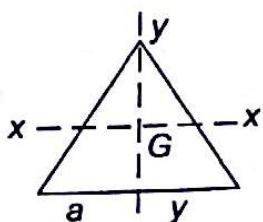

Fig. 8.16
8.1 Fig. 8.16 shows an equilateral triangle with side a . xx and yy are centroidal axes. If $I_{xx} = 100 \text{ cm}^4$, what is I_y ?